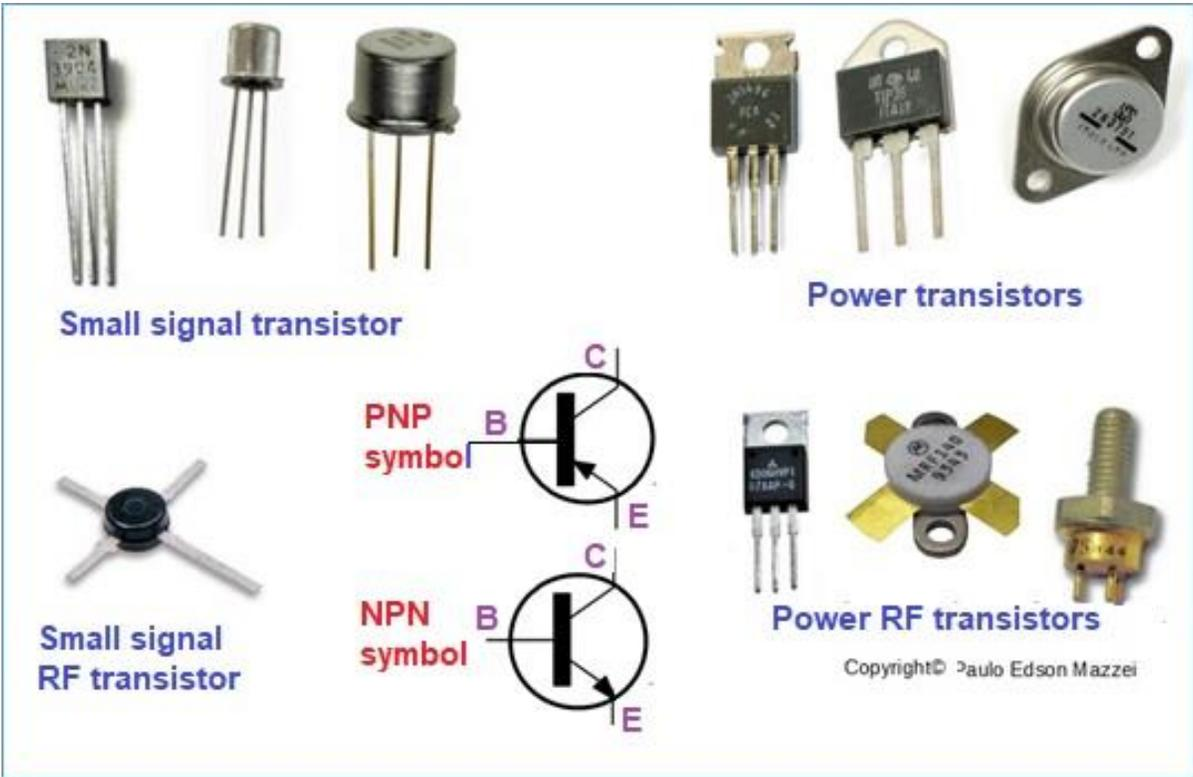

Figure 253 – Types of transistors.
▶ Types of transistors. If you search the Internet, you will find a huge variety of transistor types. But they can be classified into some types. See **figure 253**.